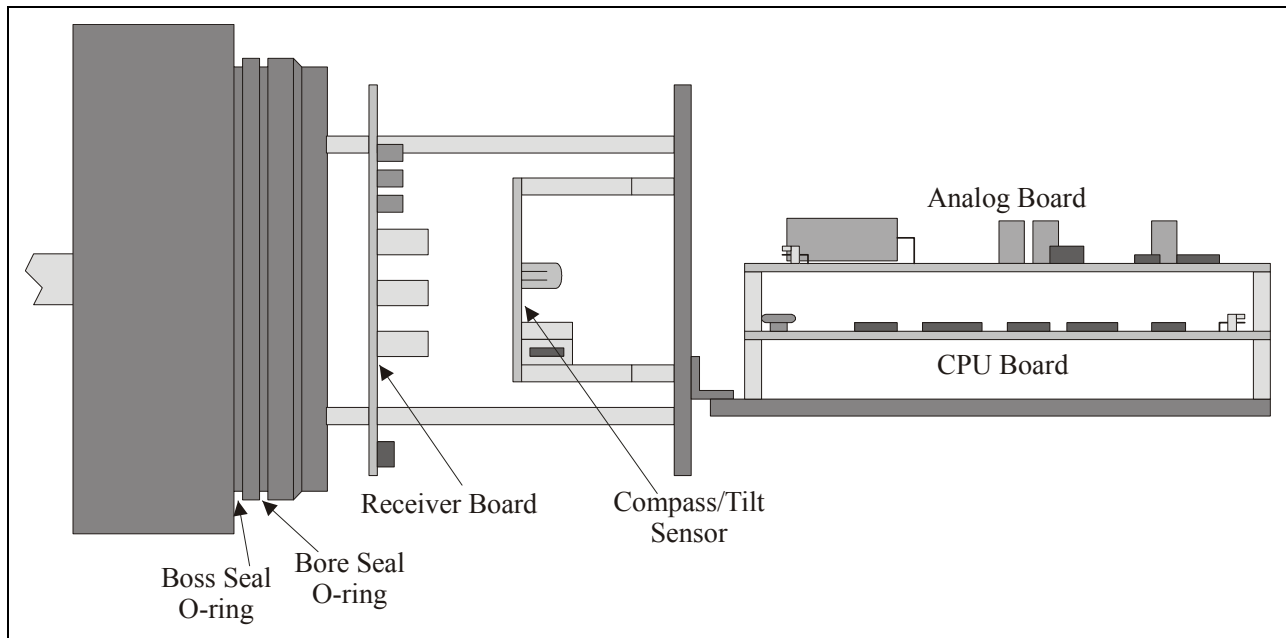

Figure 8 – Internal Electronics (Underwater and Autonomous Configurations)
Figure 8 shows the internal layout of the Triton for the underwater and autonomous configurations. The system is shown with the mounting stem and probe to the left, and the optional compass/tilt sensor installed for down-looking operation (§4-2).
- The processor (analog and CPU boards) is mounted on two sets of four ½" standoffs. The analog board is on top of the CPU board. The two boards connect via an edge connector at the right end (as shown in Figure 8). See §5-3 for a description of the processor.